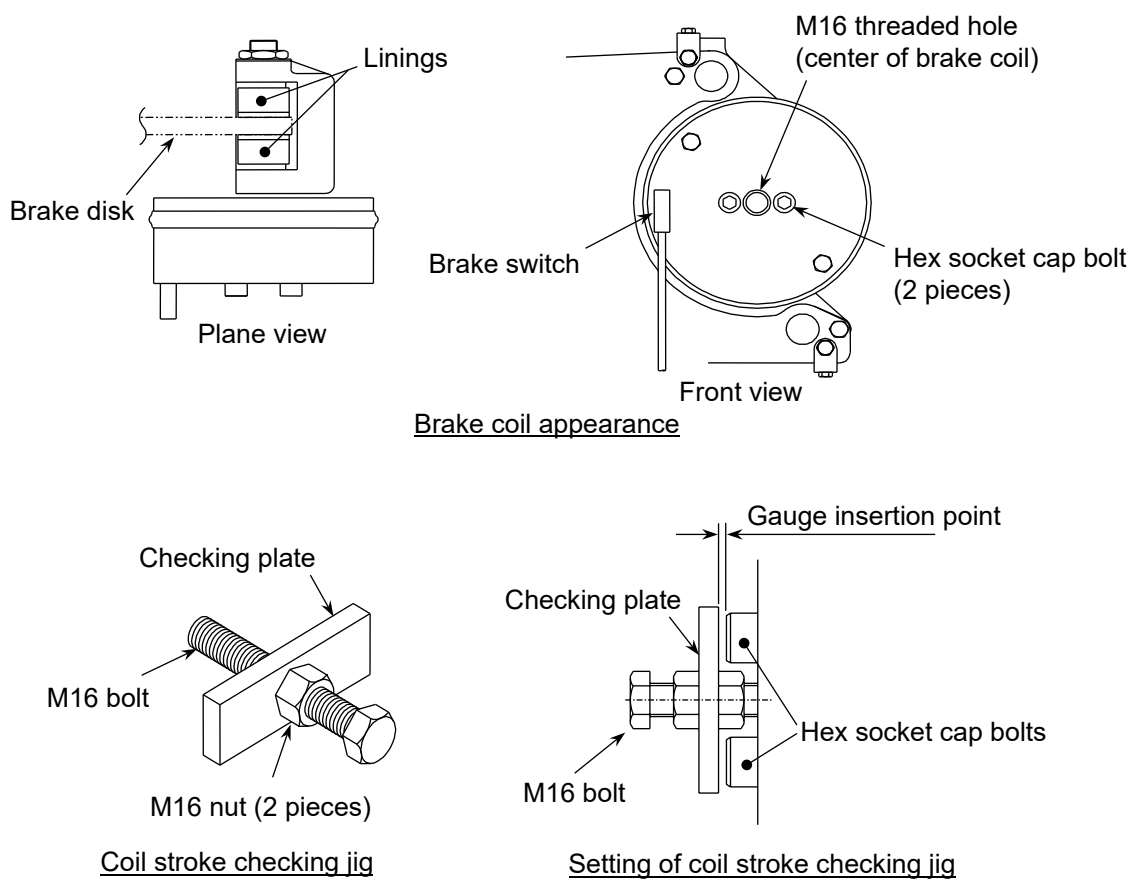

Fig. 29 Procedure for checking coil stroke of traction machine group Z
Prepare the coil stroke checking jig and the feeler gauge provided for the traction machine, referring to Fig. 29 and Table 13.
Set the coil stroke checking jig to the center of the brake coil in accordance with the procedure below. (Refer to Fig. 29.)
- i) Assemble the coil stroke checking jig as shown in Fig. 29 and attach it to the center of the brake coil.